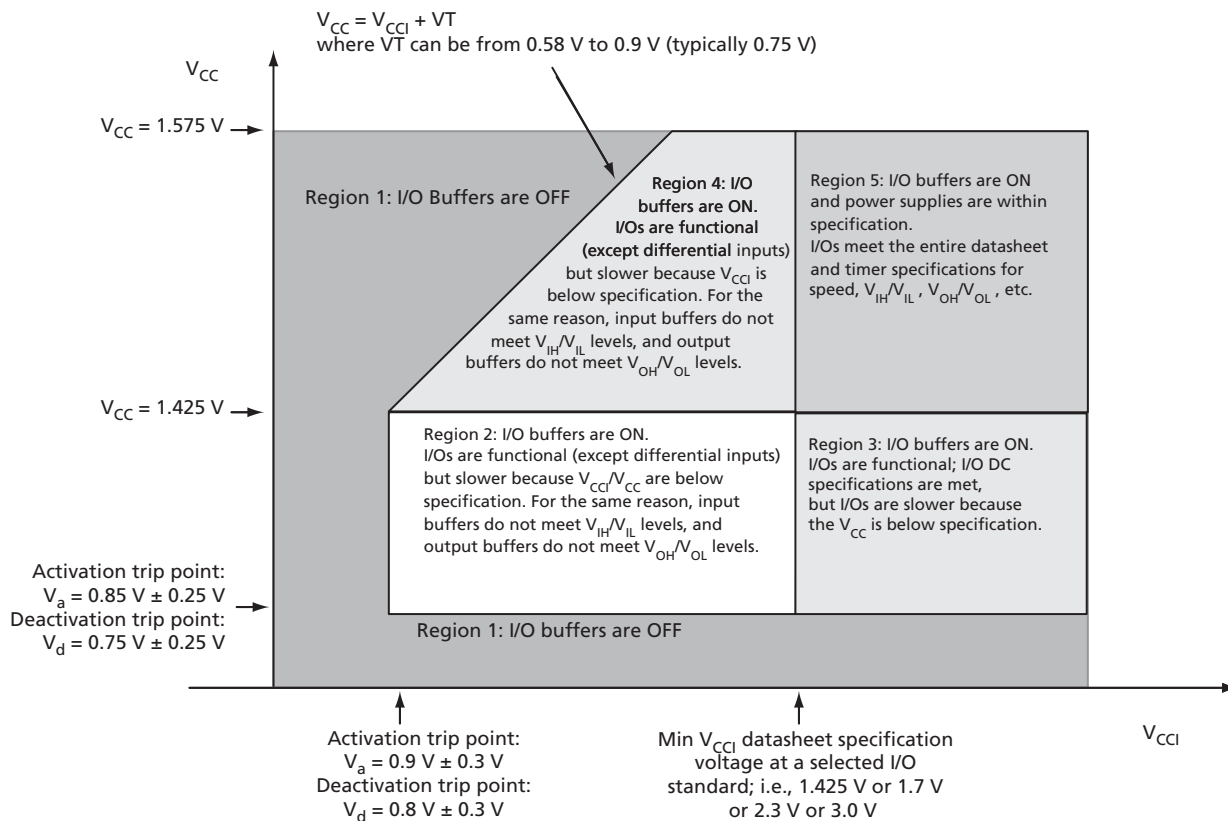

Figure 2-1 • I/O State as a Function of  $V_{CCI}$  and  $V_{CC}$  Voltage Levels
Sophisticated power-up management circuitry is designed into every ProASIC®3 device. These circuits ensure easy transition from the powered-off state to the powered-up state of the device. The many different supplies can power up in any sequence with minimized current spikes or surges. In addition, the I/O will be in a known state through the power-up sequence. The basic principle is shown in Figure 2-1 on page 2-4.
1. VCC and VCCI are above the minimum specified trip points (Figure 2-1 on page 2-4).
Actel recommends using monotonic power supplies or voltage regulators to ensure proper power-up behavior. Power ramp-up should be monotonic at least until VCC and VCCPLLX exceed brownout activation levels. The VCC activation level is specified as 1.1 V worst-case (see Figure 2-1 on page 2-4 for more details).